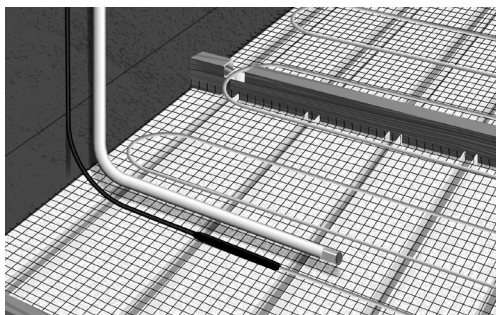

Fig. 17. Place and fasten empty pipe between 2 cables
8. Install a conduit pipe for the floor sensor. Make sure the end of the conduit pipe is located at the same level as the heating cable and between two loops, approx. 50 cm from the wall. Seal the end of the conduit pipe. (Fig. 17).